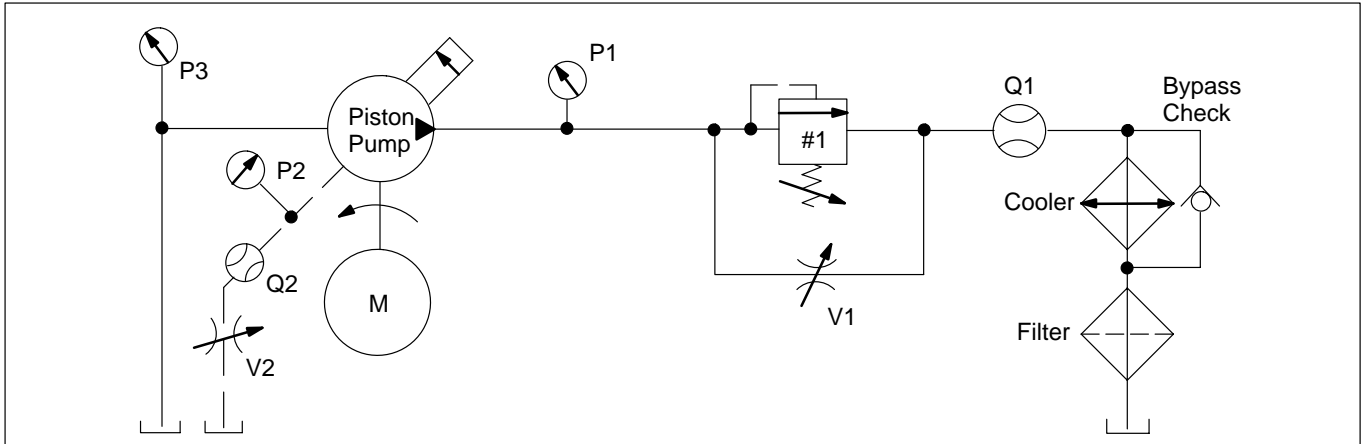
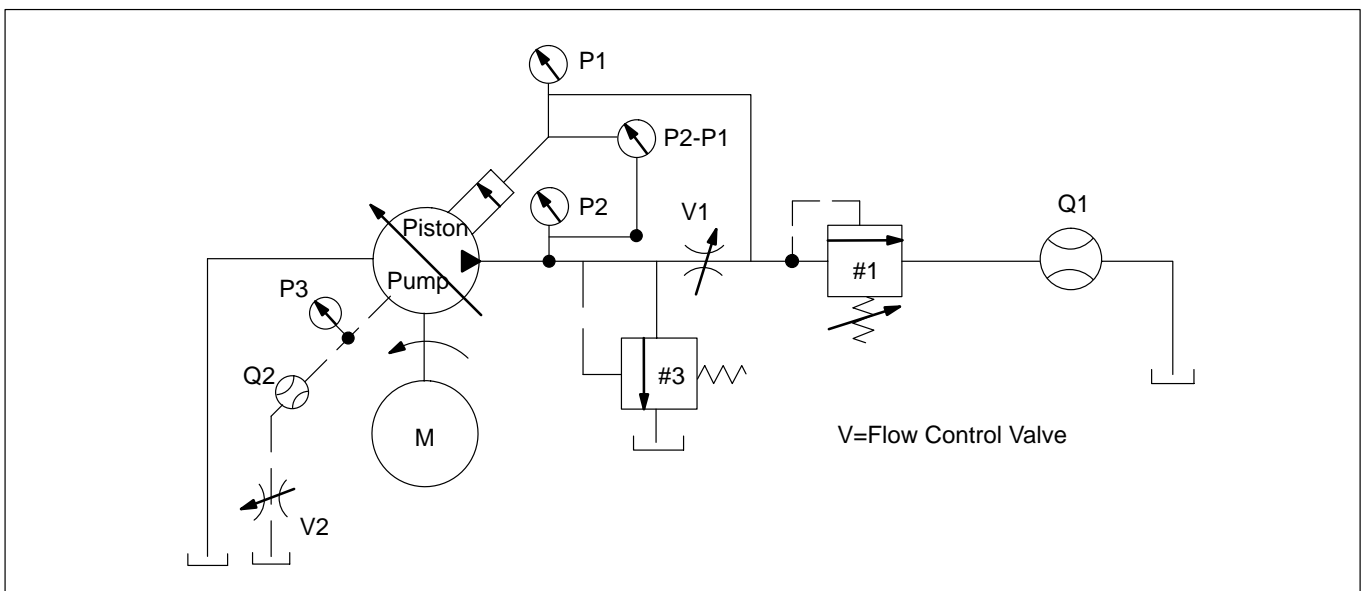

Figure 23. Circuit Diagram for "C" and "CG" Control.
Figure 24. Circuit Diagram for "CV", "CVP", and "CVPC".
Install unit as shown in test circuit diagram with case drain up. Use the correct circuit diagram for the unit: Figure 23–PVE 19/21 (G)–\*–\*\*–C/CG–1\*. Figure 24–PVE 19/21 (G)–\*–\*\*–CV/CVP/CVPC units.
1. Adjust load valve one (1) and globe valve one (V1), Figure 23, for exactly 100 Psig as read at gauge P1. The unit must meet the following requirements at full stroke, and 1200 RPM. See Table 4. Record the flows obtained.
2. Close globe valve one (V1) and readjust load valve one (1) to system pressure shown in Table 5. Read Psig at gauge P1.
4. Open globe valve one (V1) and load valve (1).
5. Back off compensator adjustment screw until approximately 0.060 inches of threads are exposed. Close load valve one (1) and globe valve one (V1). The pressure as read at gauge P1 must not exceed 250 Psig.
2. Refer to Figure 23 and adjust load valve (1) and globe valve (1) to 100 PSI system pressure at P1. Observe maximum pump flow and maximum case leakage requirement noted in Table 4.
Refer to Figure 24 for location of circuit components.